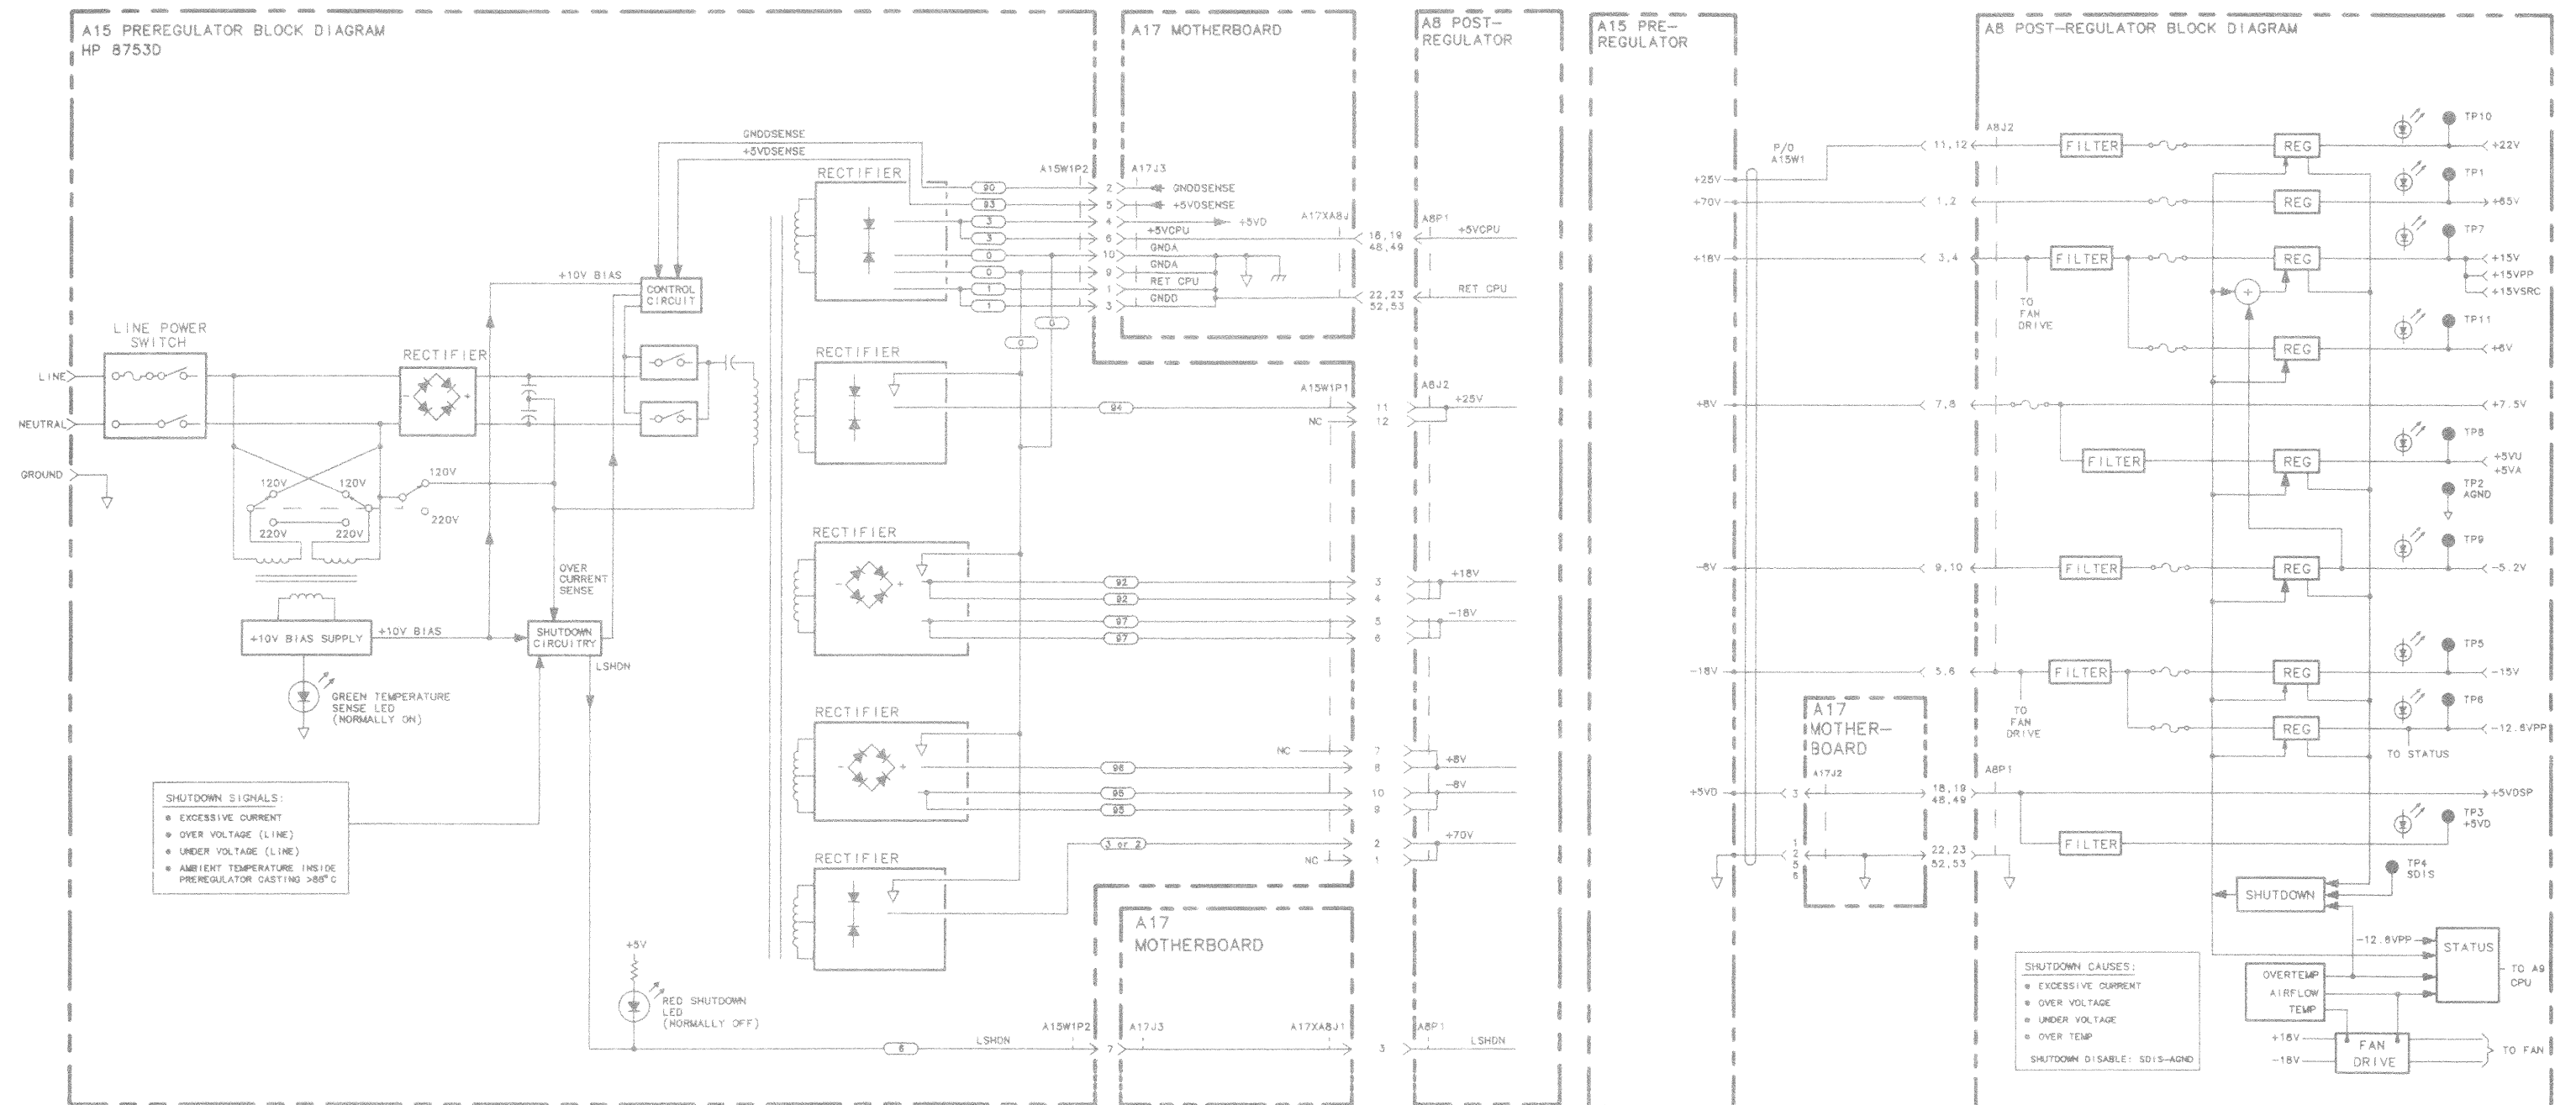

Figure 5-8. Power Supply Block Diagram
3. Refer to the block diagram (Figure 5-8) at the end of this chapter and do the following:
If the fan is dead, refer to the A8 post regulator block diagram (Figure 5-8) at the end of this chapter. The fan is driven by the +18 V and –18 V supplies coming from the A15 preregulator. Neither of these supplies is fused.